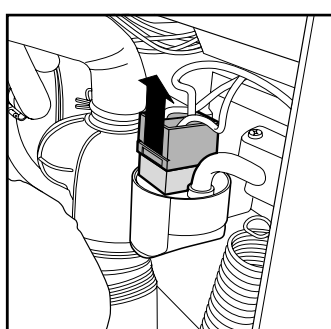

Fig. 3
3. Disconnect the electricity supply to the radio interference suppressor by removing the connector (fig. 3).